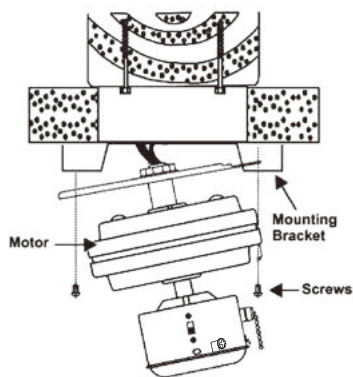

Figure 9
1. Swing the motor assembly up into position under the mounting bracket. Secure the bracket to the plate with the screws provided. (Fig. 9)